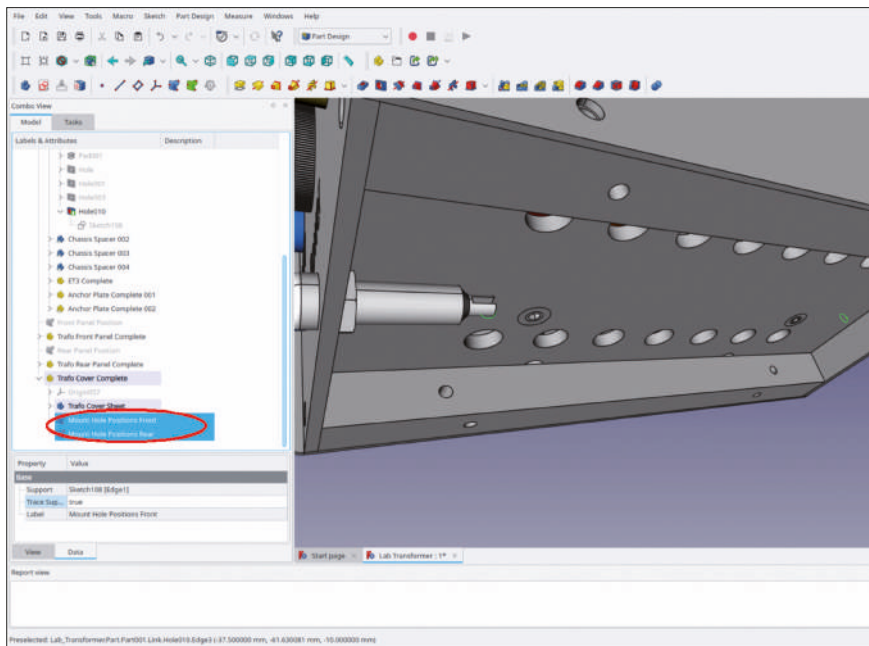

Figure 9-145
6. Drag-and-drop the two shape binders into the Std-Part-Container 'Trafo Cover Complete'. Hide the sketch in 'Chassis Spacer 001' (Figure 9-145).